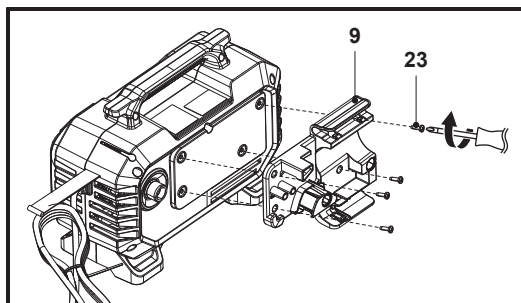

Fig. 1
Use a suitable cross-head screwdriver (not supplied) to tighten the 4 screws (ST4.8 x 16) (23) and secure the suspension plate (9) to the back of the machine (Fig. 1).